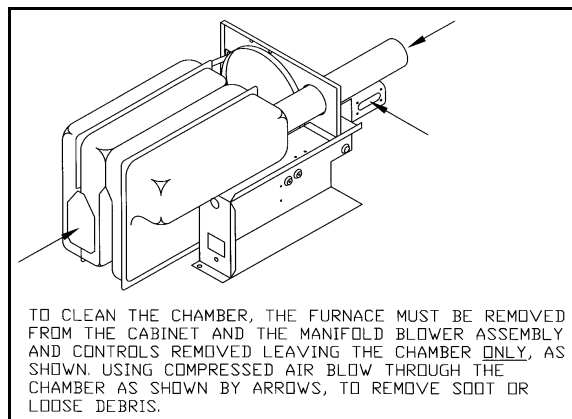

Figure 10
5. Inspect combustion chamber for restrictions in exhaust or intake. It is imperative that the flow of intake combustion air and the flow of exhaust gases being expelled to the outside atmosphere not be obstructed. Any soot or loose debris should be blown out using compressed air. (See Figure 10.)